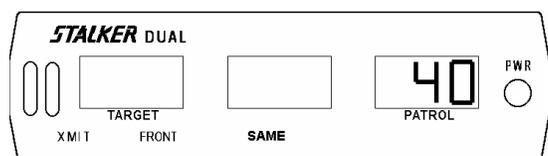
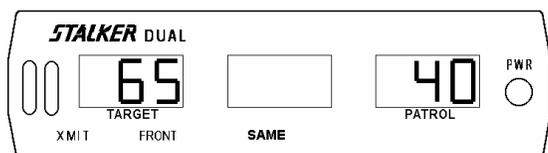

Fig 53
Fig 54
Two (2) tuning forks are supplied for **STALKER DUAL SL**. The tuning forks are calibrated for 25 mph and 40 mph (40 and 64 kph). To perform the tuning fork test, power the unit ON, select moving mode, and same lane mode. If the SLOW icon is present, press the **FASTEST** key to remove it. Select the front antenna, and place the unit in transmit mode. Strike both tuning forks against a hard nonmetallic surface, such as the heel of a shoe. Quickly hold the higher speed fork approximately two (2) inches in front of the antenna, with the narrow edge of the fork facing the antenna. The patrol window should indicate 40 ± 1 mph (64 kph) (Fig 53). Move the lower speed fork in front of the antenna with the narrow edge facing the antenna. The target window should register 65 mph ± 2 (104 kph) (Fig 54), which is the sum of the speed of the two forks. Repeat the above test with the rear antenna selected, if installed. *Note: We recommend that the tuning fork test be performed on each antenna. Some departments perform this test both before and after each citation. Check your department policy.*